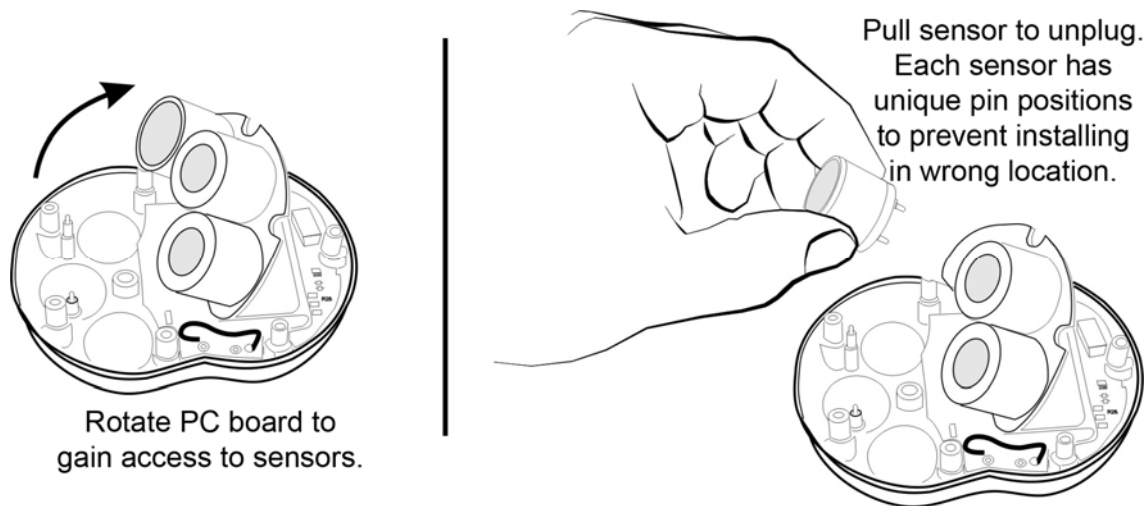

Figure 5-2. Removing Sensor
- 5) Unplug desired sensor and replace with new sensor. Refer to Figure 5-2.